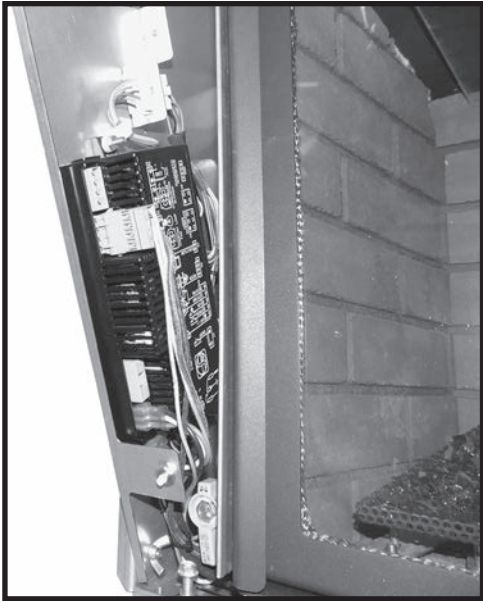

Figure 3: SIT electronic controller (IFC) mounted onto caddy.
2. Proflame Integrated Fireplace Control (IFC) (Figure 3) board and a wiring harness to connect the IFC to the gas valve and stepper motor.
The Proflame 2 Integrated Fireplace Control (IFC) module (Figure 3) is a device that allows automatic ignition and pilot flame supervision, and commands the functions of the hearth Heater. It's configured to control the ON/OFF main burner operation, giving the choice of both IPI (intermittent pilot ignition), and CPI (continuous pilot ignition) modes. The Proflame 2 IFC module controls and connects directly to the pilot assembly and the automatic valve using low electric power.